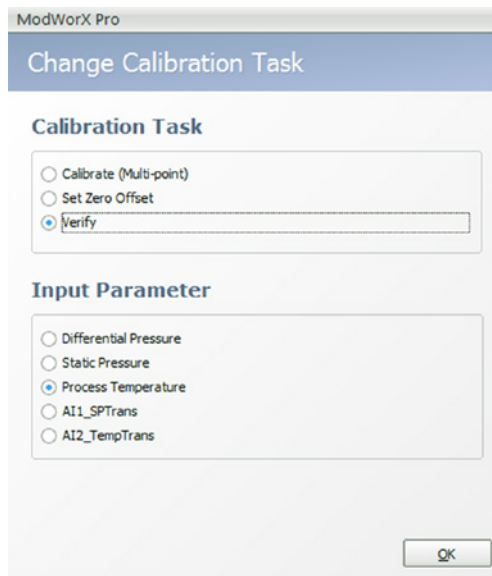

Figure 8.17
1. On the Change Calibration Task screen, click **Verify** as the Calibration Task, and click the input parameter of your choice. For this example, Process Temperature is the input parameter to be verified (Figure 8.17).